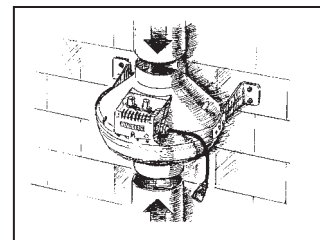

Fig. 23
6. Connect the air ducts to the fans (fig.23);